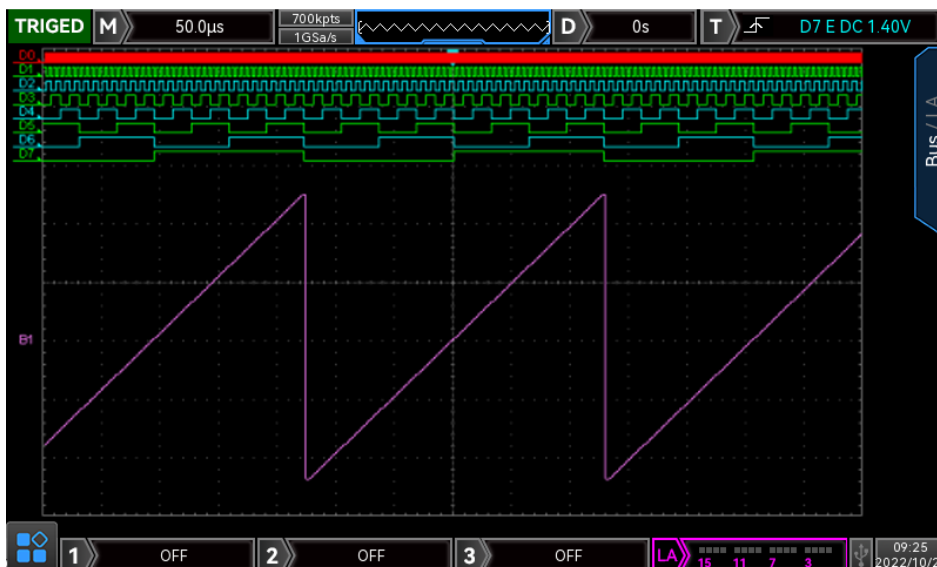

Figure 16-1
- (1) Bus: It can be "BUS1" or "BUS2".
- (2) Bus status: Turn on/off data bus.
- (3) Quick selection: Select the corresponding channel group of BUS1 or BUS2, which can be D0-D7, D8-D15, D0-D15 or None.
- (4) Bit: Select the corresponding channel bit of the bus, which can be D0 ~ D15, CH1 or CH2.
- (5) Bit order: Set the bus bit order, which can select "low to high"(D0 locate in low bit) or "high to low"(D0 locate in high bit).
- (6) Clock: Select any one of channel (D0-D15, CH1, CH2) as the reference clock of bus. Select "NULL" means not set the reference clock.
- (7) Edge type: Set sampling edge type of reference clock, which can be "rising edge, falling edge".
- (8) Display type: Select display format of data bus, which can be hexadecimal, decimal, binary system, ASCII or figure. In figure display mode, the oscilloscope will display the bus data to the level of the corresponding value in a specific way. It is convenient to observe the changing trend of bus value, as shown in Figure 16-1.
- (9) Shake proof: Turn on/off shake proof function.